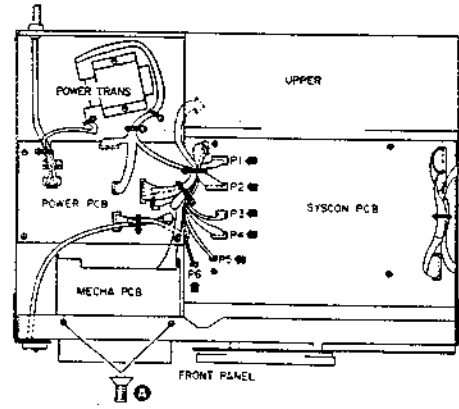

Fig. 3-5
- 2) Remove the six connectors P1-P6 from the SYSCON PCB. Remove mechanism block securing screws (B) (Refer to Fig. 3-5.)